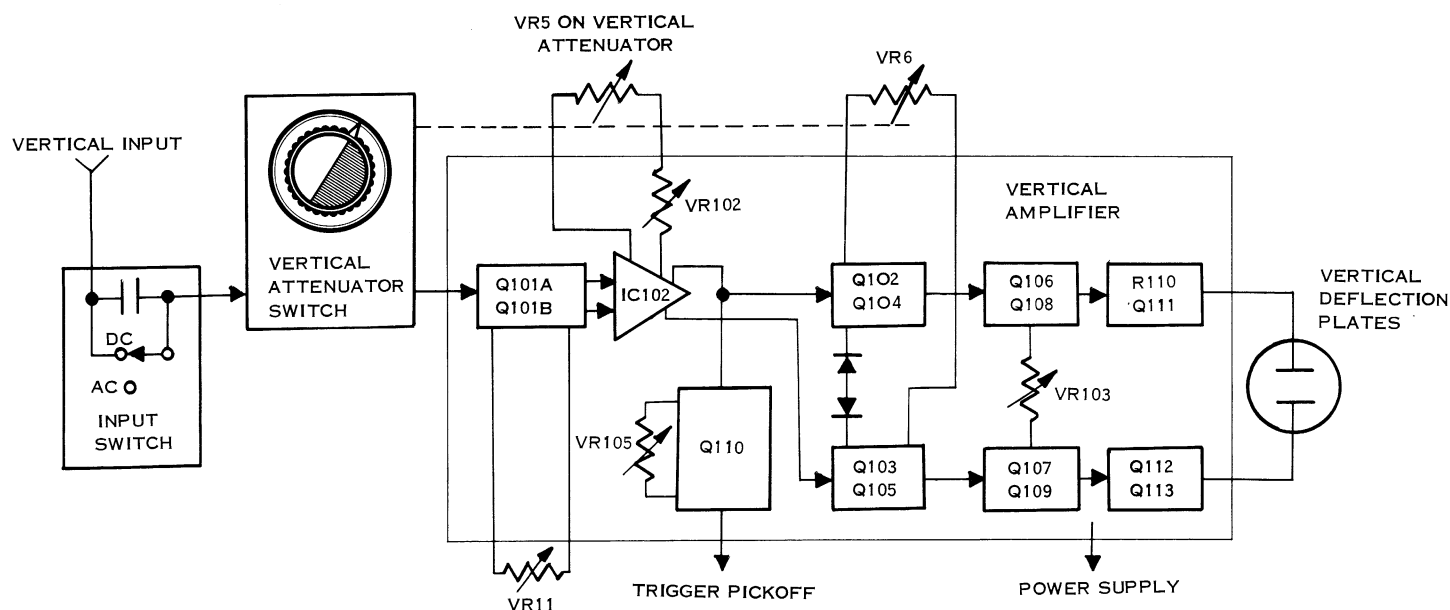

Figure 5-2. Vertical System Detailed Block Diagram
5.2 VERTICAL SYSTEM DETAILED BLOCK DIAGRAM (Refer to Figure 5-2)